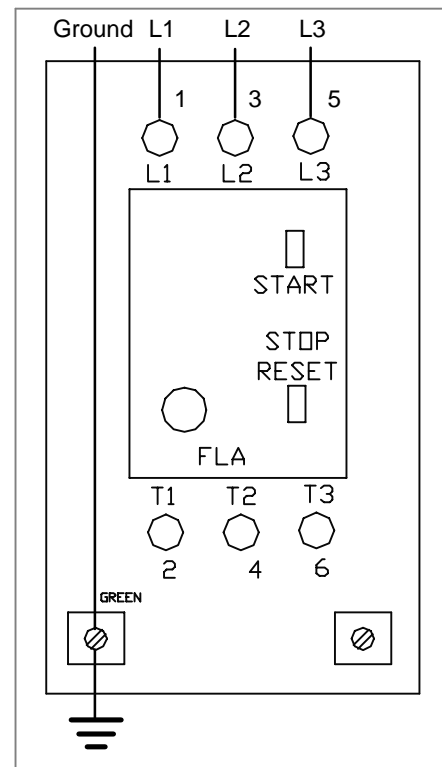

Figure 15
2. Insert line cord through grip (W) and tighten nut.
3. For correct three-phase motor shaft rotation, connect line phase sequence L1, L2 & L3 to terminals as shown (Figure 15).
**NOTE:** The motor ground wire is also attached to left terminal marked  $\perp$  (Figure 15).
4. Attach ground wire to lower left terminal marked  $\perp$  (see Figure 15).